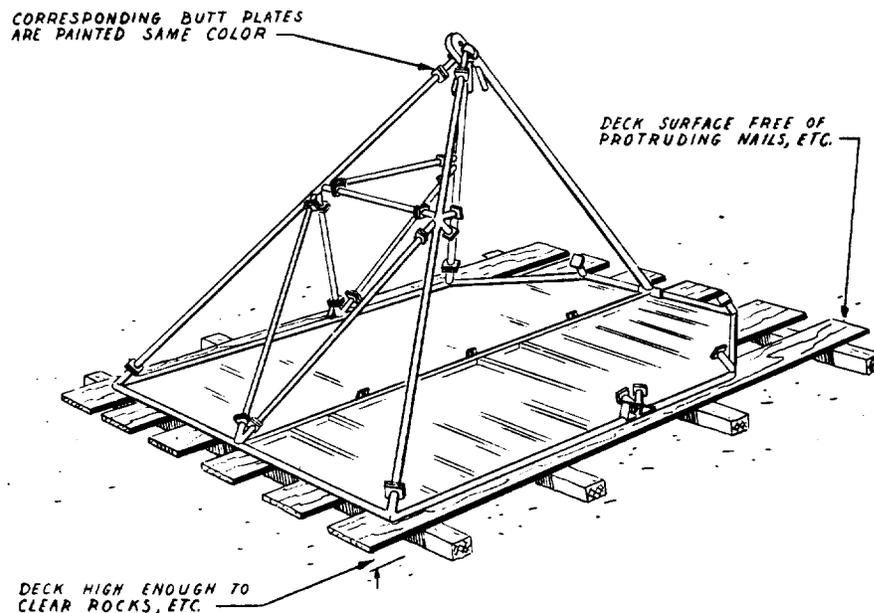
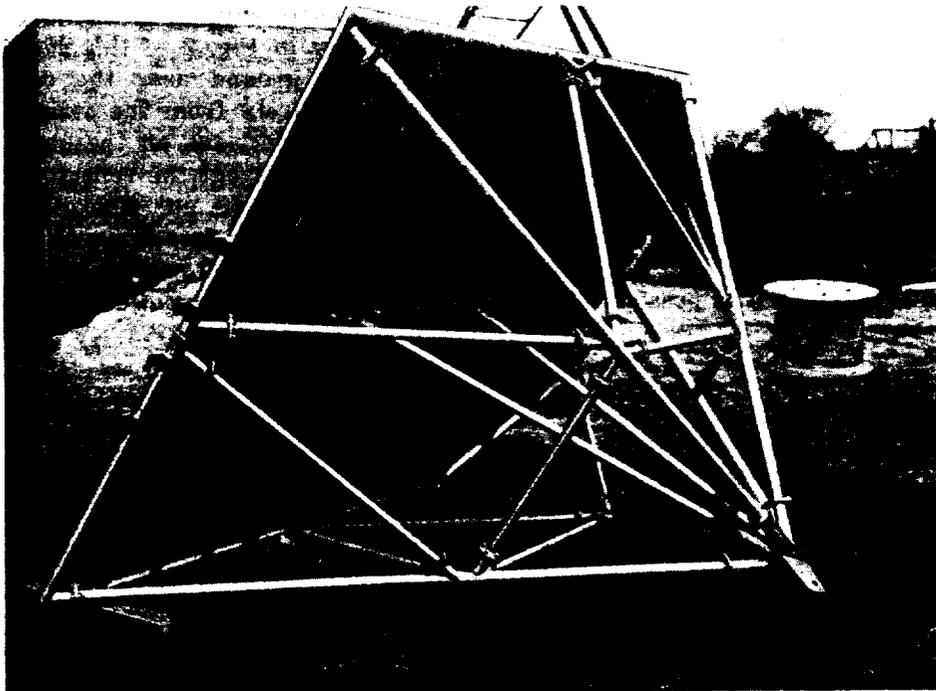

Fig. 2 — Method of Assembling KS-16320 Passive Reflector
Fig. 3 — KS-16320 Passive Reflector Arranged for Inspection of Surface
3.01 At least two men are required to remove the reflector, Item 4, Fig. 3, in Section 402-423-400, from the crate and place it face down on the deck, as shown in Fig. 2 of this section.
3.02 Each square butt plate (or flange) in the aluminum frame and on the separate tubular members is painted distinctively. The parts are assembled by matching the corresponding colors. Fig. 3 in Section 402-423-400 shows the assembled reflector and indicates the color coding.
3.04 It is necessary to reach the center of the reflector face to connect the lower ends of members 11, Fig. 3, in Section 402-423-400, to brackets provided on member 7 of the list 1 reflector. Place a suitable plank across the reflector, supported by several cross members, so that the connections can be made without imposing concentrated loads on the reflector.
3.06 Assemble guide clamps, Items 33B, Fig. 1, in Section 402-423-400, as shown in enlarged view A-A of that figure. The projecting ends of the lower pieces face the center of the reflector. Since the clamps cannot be accurately positioned until the reflector is placed on the lower mount during installation, push them to the outer edges of reinforcing tube, Item 8, Fig. 3, in Section 402-423-400, and clamp them just tightly enough to hold them temporarily in place.
4.01 Immediately upon completion of assembly, the reflecting surface should be inspected for flatness. Turn the reflector over carefully so that it is supported by one 8-foot edge and by the bracing structure, as shown in Fig. 3 of this section. Stand a short distance away and sight along one 6-foot edge in the plane of the face. If the face is flat, it will be possible to sight
5.01 If an assembled reflector is to be left stored out-of-doors overnight, or where circumstances warrant that precautions be taken to prevent damage, it should be placed face down on a smooth surface in the manner indicated for assembly in Fig. 2 of this section. Drive stakes into the ground near the corners and fasten ropes securely from the stakes to the adjacent tubing connections on the back of the reflector frame, to prevent the reflector from being overturned by winds, etc. *Every precaution must be taken in such a case to avoid the possibility that the reflector be trampled by animals or exposed to other hazards peculiar to the location.*